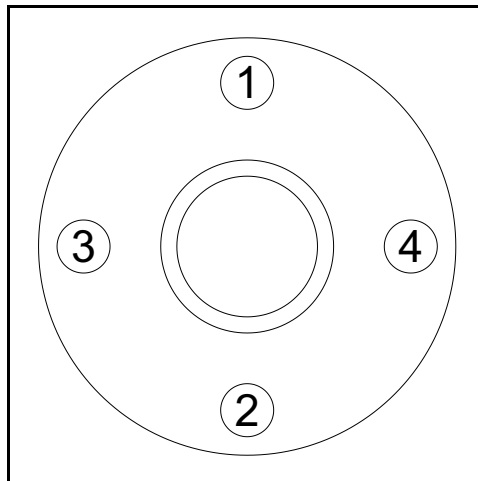

Figure 77: Holder Top View - Bolt Tightening Order
6. Using a torque wrench, tighten the four upper bolts to 15 ft-lb in the order shown in *Figure 77* below. Then, tighten the four bolts to 30 ft-lb in the same order shown in *Figure 77* below.
9. Align the flange holes of sensor flange with the tapped holes in the holder. Apply anti-seize lubricant to the flange bolts, install 3/8" lock washers and loosely bolt the flange to the holder. Using a torque wrench, tighten the four bolts to 15 ft-lb in the order shown in *Figure 77 on page 95*. Then, tighten the four bolts to 30 ft-lb in the same order shown in *Figure 77 on page 95*.